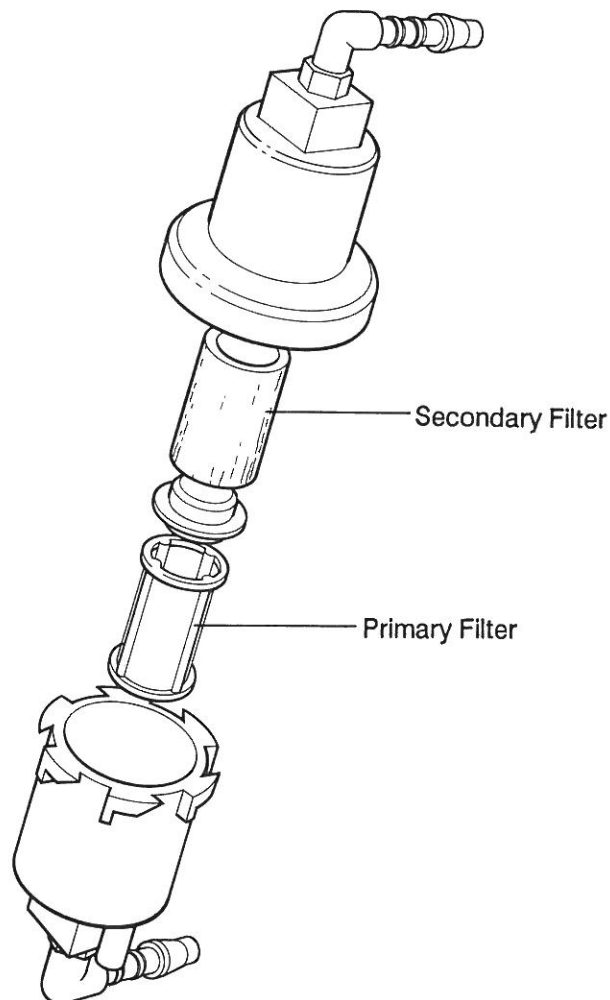

FIG. 9 Exploded View of Filters
2. GAS FILTERS - refer to Fig. 9